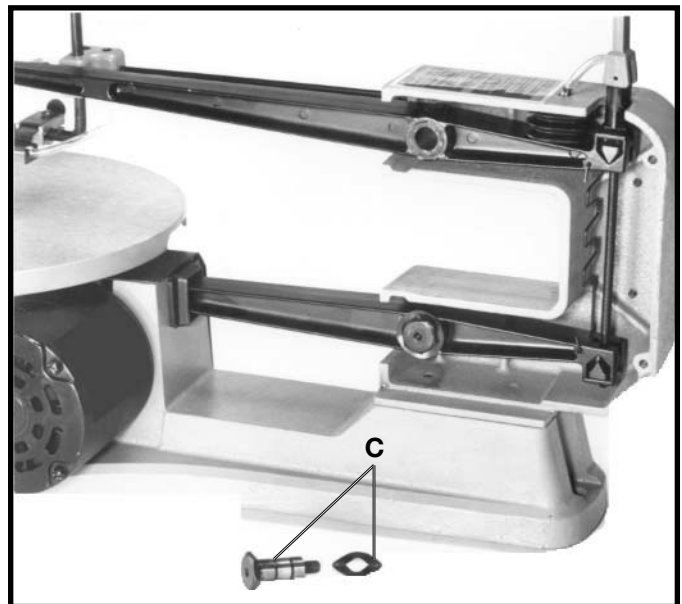

Fig. 28
5. Fig. 28 illustrates one of the pivot bolts and wave washers (C) removed. Thoroughly clean grease from shafts of both pivot bolts and lubricate shafts with a few drops of light machine oil.